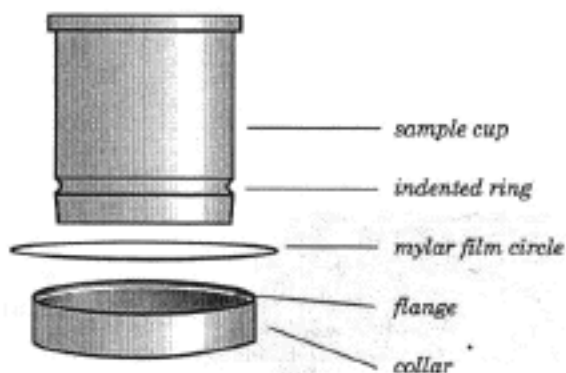

Fig. 3.08 Secure the film by snapping the collar on to the cup.
**Note: The sample container should be a sample cup of a type that can be filled from the rear; that is, the side opposite the window (e.g. Chemplex #1330). NITON recommends using a 1/4 mil mylar film window (Figure 3.08). A supply of cups and windows are included.**